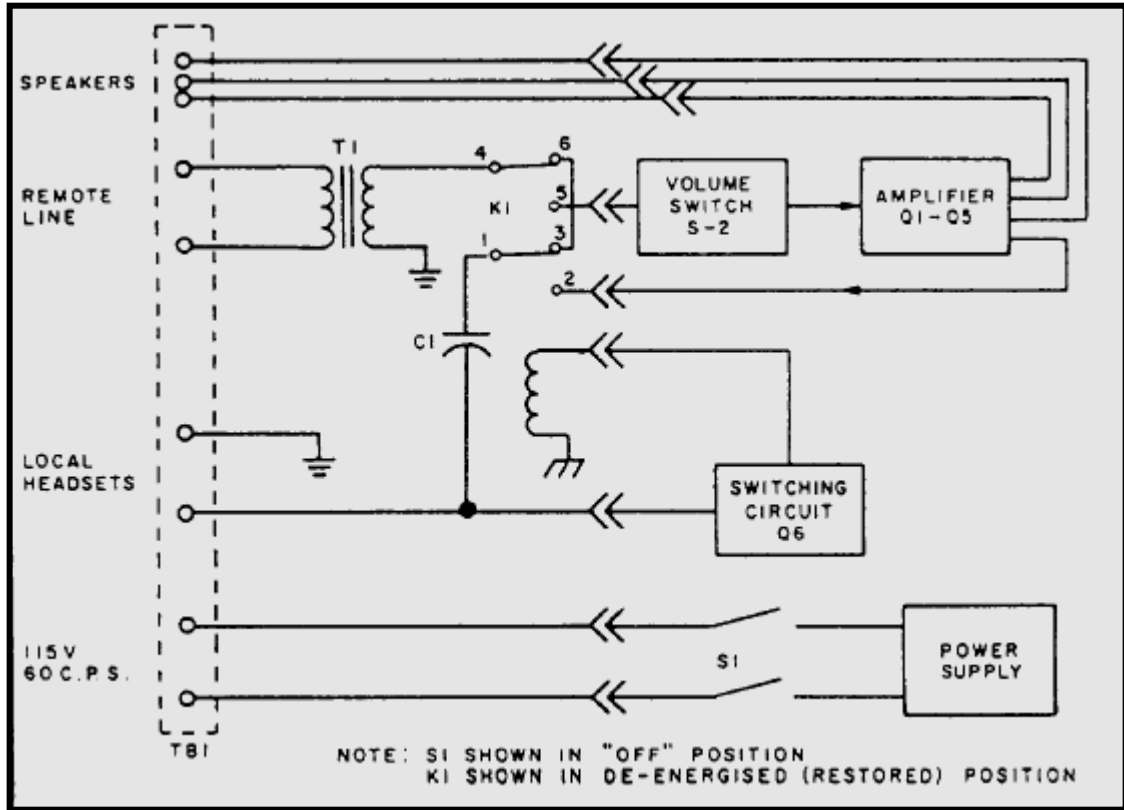

Figure 5-16.—Functional diagram of AM-2210/WTC.
Figure 5-16 is a functional diagram of the AM-2210N/WTC. One relay (K1) is used in the switching circuit.
**AUDIO AMPLIFIER.**— The audio amplifier (fig. 5-16) consists of a low-level, three-transistor amplifier (Q1 through Q3) and a power amplifier (Q4 and Q5), with negative feedback employed throughout. The output transformer (T3, not shown) has two secondaries: the first is used with the loudspeakers and the latter, a tapped winding, is used for as many as six sound-powered telephone outlets. The amplifier provides a 10-watt output.
**POWER SUPPLY.**— The power supply is basically a full-wave rectifier receiving its power through switch S1 (fig. 5-16) and the fuses on the face of the amplifier. A neon glow lamp and a volume control potentiometer are also located on the face of the amplifier. The amplifier operates on 115-volt, 60-Hz, single-phase power, which is normally supplied by the ship's local lighting panels.